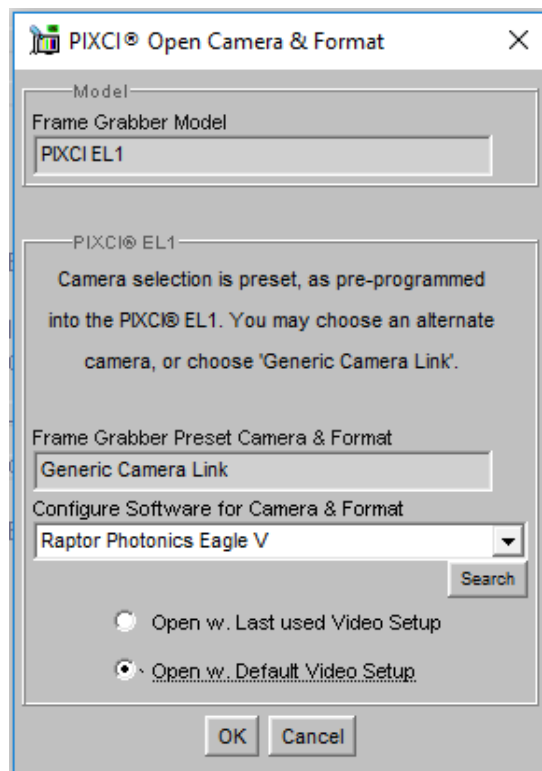

Figure 4: Camera Selection
4. Using the dropdown menu scroll down and select Raptor Photonics Eagle V-from the list (Figure 4). Selecting OK when done.